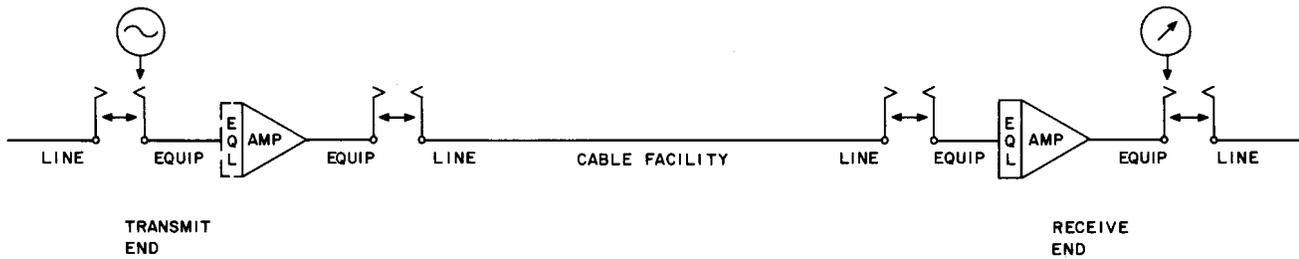

Fig. 6—Test Configuration for Loss Frequency Measurements
3.13 When MFT units are used on both ends of the cable section, the test arrangement in Fig. 6 is used. The jacks in Fig. 6 are provided by the test extenders.